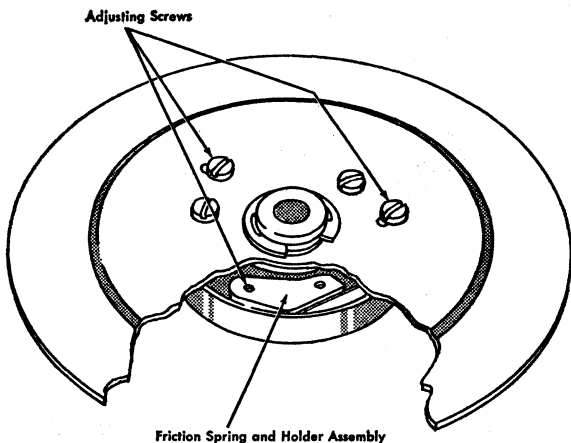

Figure 3. Intermediate Ribbon Spool Flange
3. RIBBON FRICTION CLUTCH (Figure 3). Adjust by positioning the 3 adjusting screws in their slots so that a pull of $4\frac{1}{2}$ to $5\frac{1}{2}$ ounces is required to turn the take-up spool while the supply spool is held fast. Check by wrapping a string around the take-up spool and pulling it with the spring scale.